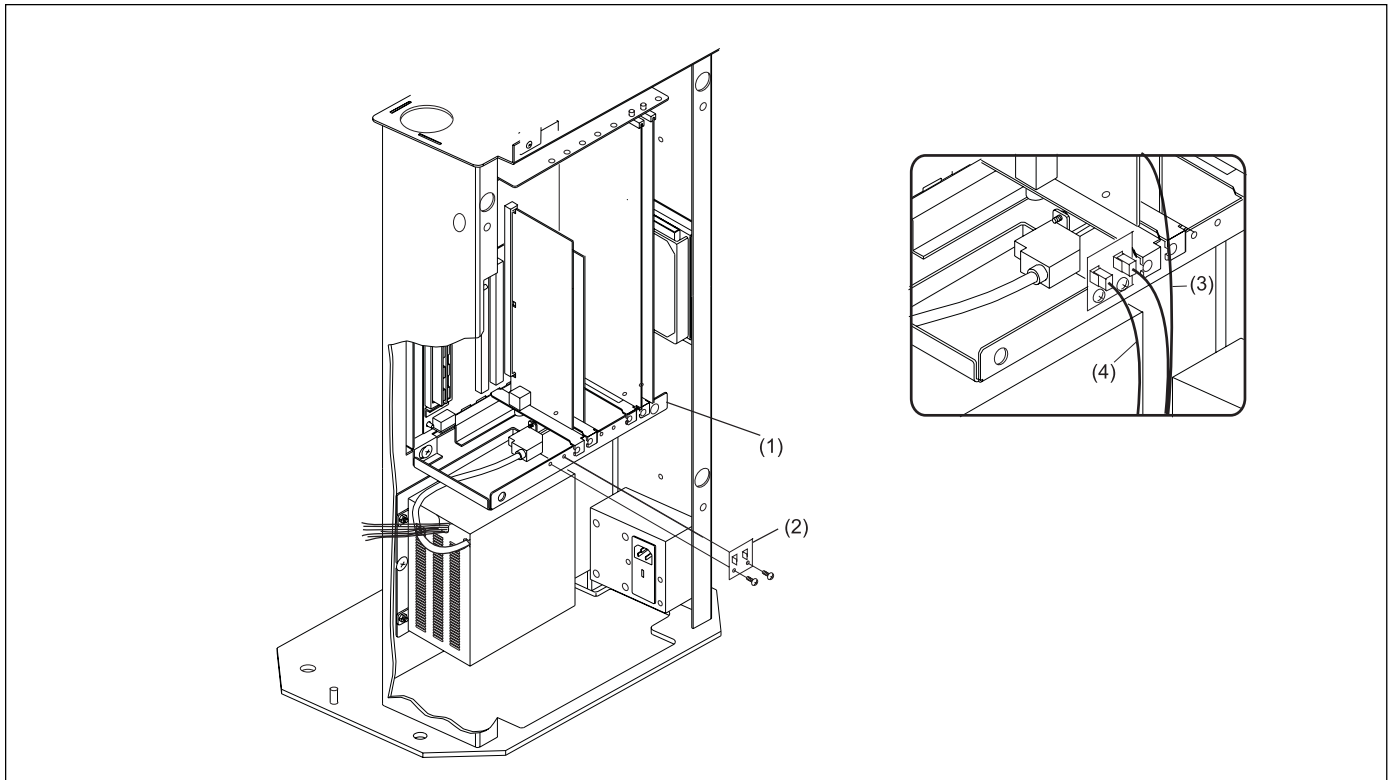

Figure 9. Replacing Breakout Local LAN PCB
If it becomes necessary, replace the LAN breakout PCB within the Frameworkx scorer or lane group processor (LGP) following instructions below. Refer to *Figure 9*.
5. Plug existing LAN cable connection into J2 port of LLAN breakout PCB and the lane cable connector into J1 port of the LLAN breakout PCB. Refer to *Figure 9*.